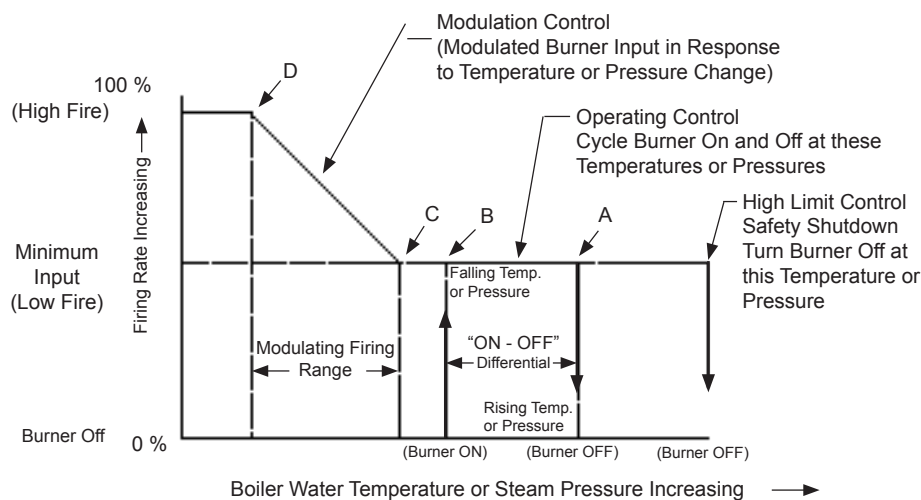

Figure D-6
The high limit control senses the hot water temperature (vessel outlet) or steam pressure. It is used as a safety limit to turn the burner off if the operating control fails. If this limit is tripped, the burner will remain off and will have to be manually reset. The high limit control should be set sufficiently above the operating control (pressure or temperature) to avoid nuisance shutdowns. The high limit control cannot be set above the temperature rating of the vessel or connected piping. This point is indicated on the far right of Figure D-6 and represents the highest temperature or pressure available.
drops below the “Burner On” point (“B” on Figure D-8) and initiates the shut down sequence when the load is satisfied and the temperature or pressure rises above the “Burner Off” point (“A” on Figure D-6).
The modulating control senses the temperature or pressure and signals the modulating motor to set the fuel and air input rates at a level consistent with the indicated temperature or pressure. An increasing load will cause the temperature or pressure to drop and the modulating motor will sense this lower level and increase the fuel and air input accordingly, starting modulation from low fire at point “C” and arriving at high fire at point “D” (Figure D-6). This control must be set to allow normal shutdown at low fire.
As Figure D-6 shows, there should be clear separation between each of the control points for the system to work properly. If the controls are positioned too close to each other, or even overlapping, the burner will have excessive ON-OFF cycling that reduces efficiency, increases wear and can cause premature failure of the components. Standard burner motors in the JBE(X) size range should not cycle on and off any more than 2 to 4 times per hour.